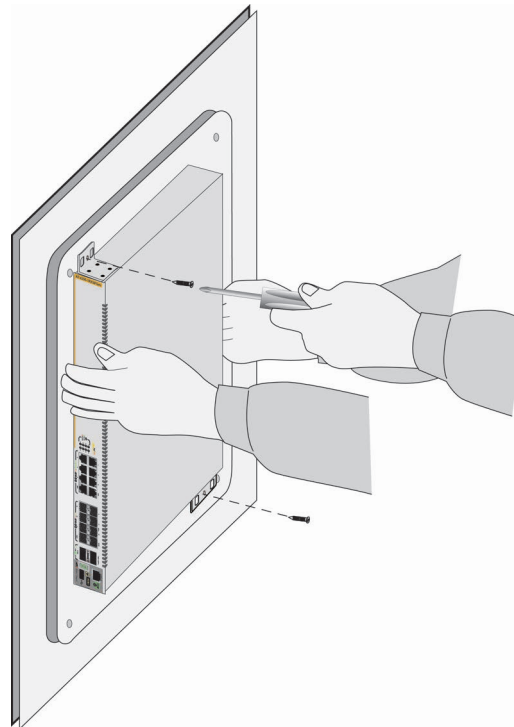

Figure 60. Securing the Switch to the Plywood Base
- After attaching the brackets, have another person hold the switch on the plywood base on the wall while you secure it with the M4x32mm screws included with the switch. Refer to Figure 60 on page 118.